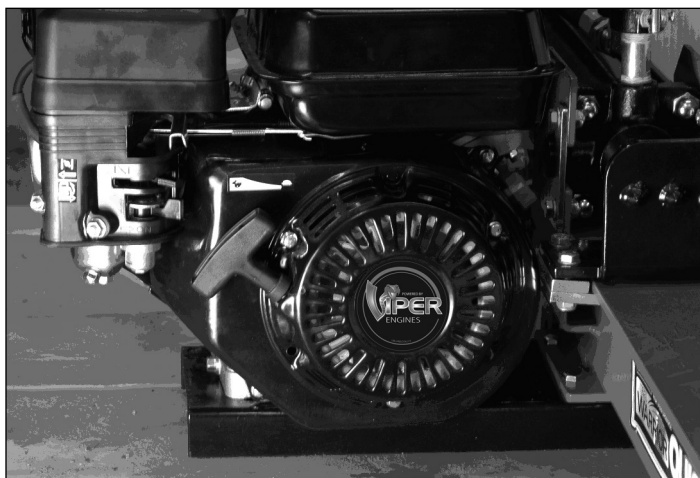

Figure 20
3. Remount engine to pre-drilled holes in base plate using the fasteners that were previously removed. **SEE FIGURE 20.**